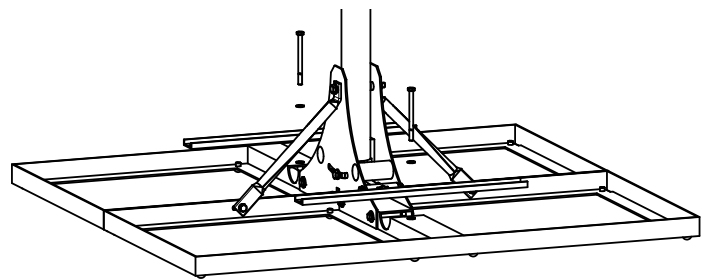

Abb. 8: Attaching the rails for securing the concrete slabs
- Fix the two rails to secure the concrete slabs on both sides, depending on the height of the concrete slab using the M8 x 50 or M8 x 100 screws (Fig. 8).